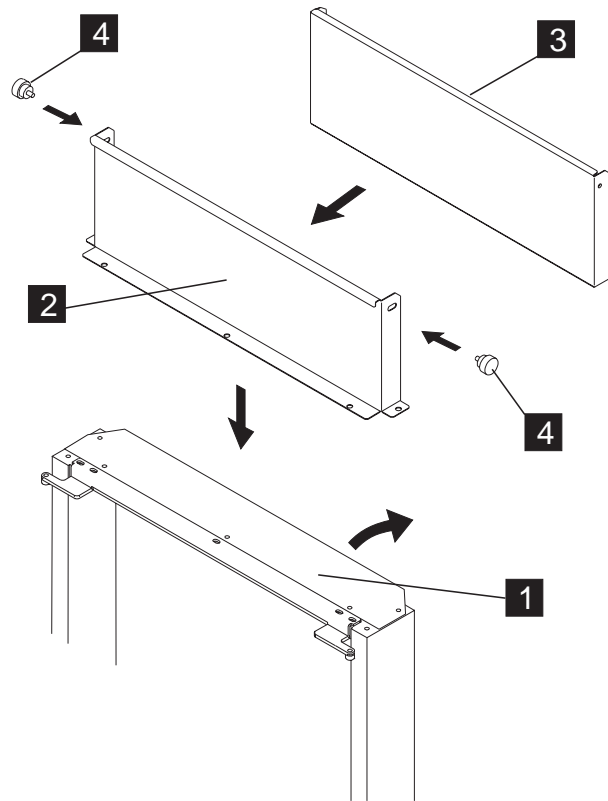

Figure 6-2. Overhead Cover Installation
1. \_\_\_\_ Refer to Figure 6-2, remove cover **1** from the top of the rack extender located at the rear side of the 2220 frame.